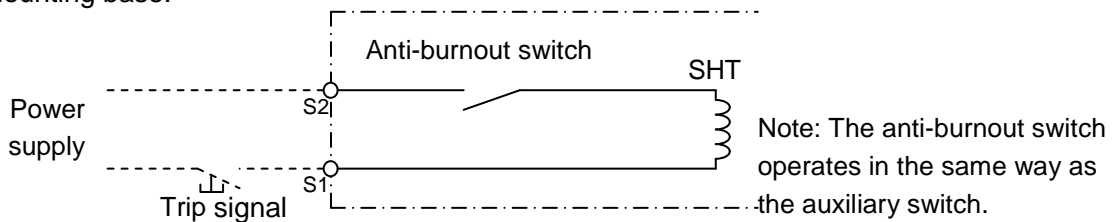

Fig. 5
- The SHT is equipped with the anti-burnout switch (see Fig. 5), and trips the ACB after it is closed. Consequently, note that the SHT does not provide electrical interlock.
Connect the power supply wire to the auxiliary circuit terminal as shown in Fig. 5.